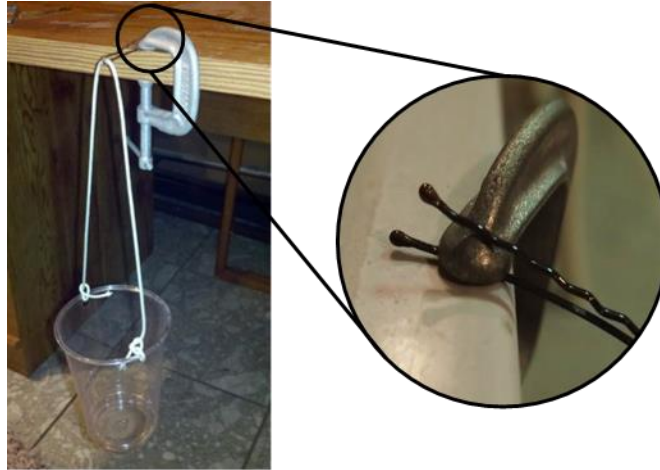

Figure 1 – Test set up
8. Punch a hole in each side of the cup and attach the twine as shown in Figure 1. Set up the control bobby pin as shown and be sure that the cup and string are hanging from the end of the bobby pin.